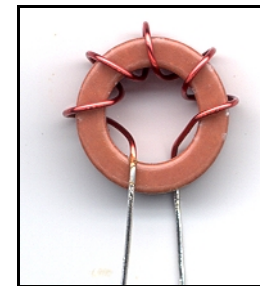

Figure 6
- A T80-0 core (brown phenolic) will be used for L1. Cut 9 inches (23 cm) of #20 red enamel wire. To wind L1, "sew" the long end of the wire through the core. *Each pass through the core counts as one turn.* Exactly 6 turns are needed, as shown in Figure 6. The enamel insulation will be removed in a later step.
- Place L1 on top of its photo (Figure 6). Adjust the turns until the spacing is similar to that shown. If the spacing cannot be matched, it may be because you have one turn too few or too many.
Strip the leads of L1 as described above. Remove the enamel from the leads up to the edge of the core (see Figure 6).